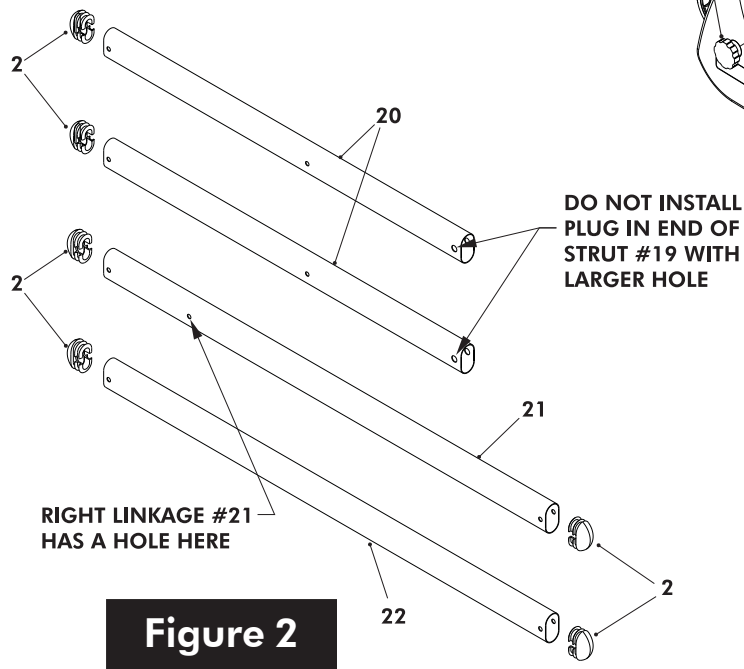

Figure 2
3. Locate two Struts (#20) and insert a Round Top Tube Plug (#2) in the end opposite the larger hole. See Figure 2
4. Locate one Right Linkage (#21) (with three holes) and one Left Linkage (#22) (with two holes) and insert a Round Top Tube Plug (#2) in each end. See Figure 2